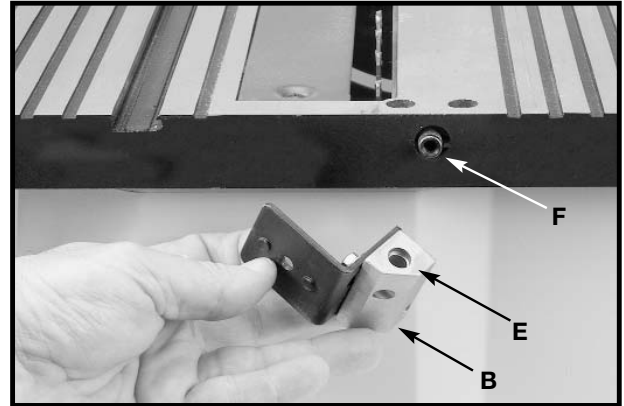
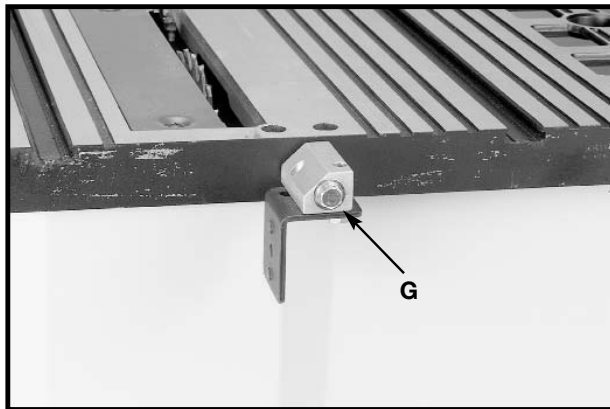

Fig. 19
Fig. 20
4. Position the recessed end (E) Fig. 19 of the splitter bracket (B) against the end of the pivot rod (F), and fasten using the assembly in **STEP 3**. **NOTE: Do not completely tighten screw (G) at this time.** Assembly shown in Fig. 20. **NOTE: Loosely tighten the hardware for further adjustment.**